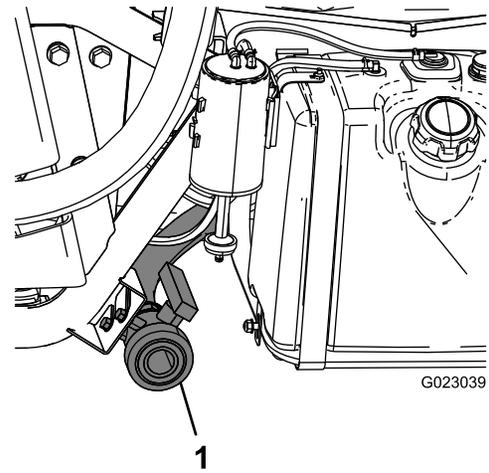

Figure 15
- Locate the tank drain valve on the left side of the machine (Figure 15).
- Open the valve to drain any unused material from the tank and dispose of it according to local codes and the material manufacturer's instructions (Figure 15).
- When the tank has drained completely, close the drain valve and install the valve onto the bracket (Figure 15).